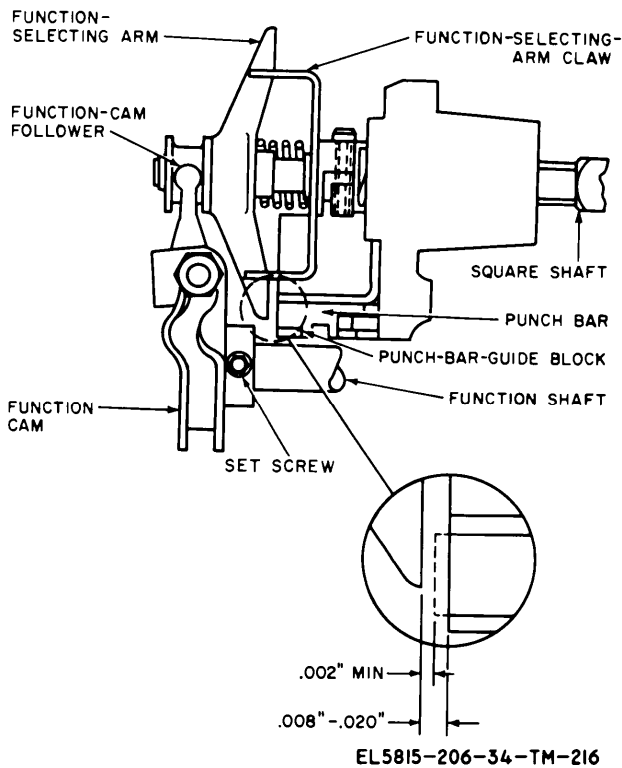

Figure 3-144. Function-cam adjustment.
(4) When an arm of the function-clutch drum is fully engaging the function-clutch latch, the roller on the function-cam follower (fig. 3-144) should be just beyond a high point of the function cam (fig. 3-143).
(3) Turn off the motor. Manually rotate the function shaft to be sure that an arm of the function-clutch drum has fully engaged the function-clutch latch. Position the Y-levers for the line-feed code combination and trip the transfer-lever latch. Slowly rotate the motor by hand until the function-clutch drum has engaged the function-shaft driven gear and note the position of a target spot on the motor. Rotate the motor 1/3 to 2/3 revolution more while checking to make certain that the line-feed sensing lever is pulled to the low part of its cam during this operation.
(4) Manually rotate the function shaft to make certain that an arm of the function-clutch drum fully engages the function-clutch latch. Trip the transfer-lever latch and rotate the motor by hand. Observe the function-selecting arm to be sure that there is no outward movement before the function-selecting arm (fig. 3-144) starts its inward thrust.
(fig. 3-144)